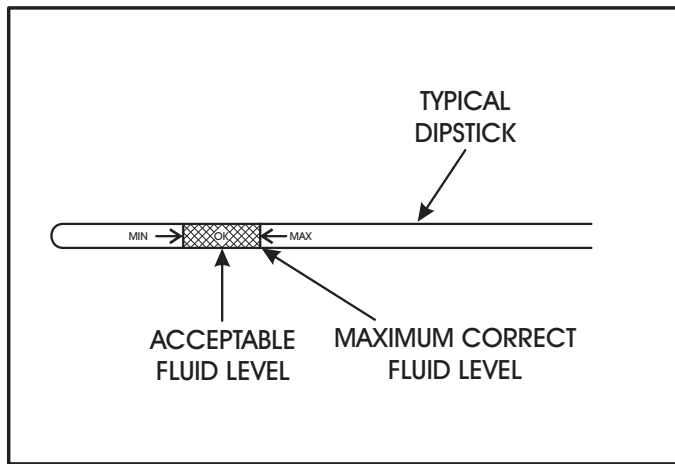

Figure 26
(7) If fluid level is low, add only enough of the Mopar® ATF Plus 3 or 4, Type 7176 to restore correct fluid level. Do not overfill (See Figure 26).